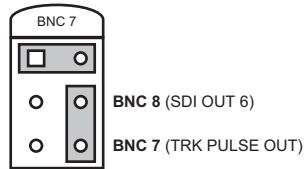

Figure 3.2 JP3 — Default Setting
- **Default** — Select this position to use BNC 7 as Track Pulse Out and BNC 8 as SD-SDI Out 6. Refer to **Figure 3.2** for jumper positions.